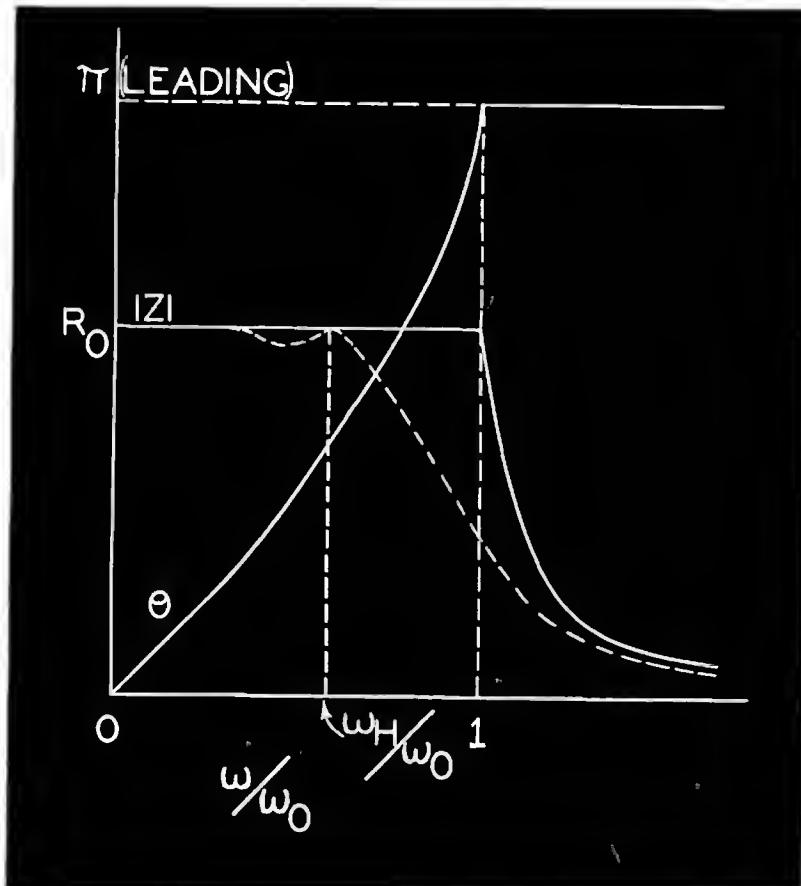
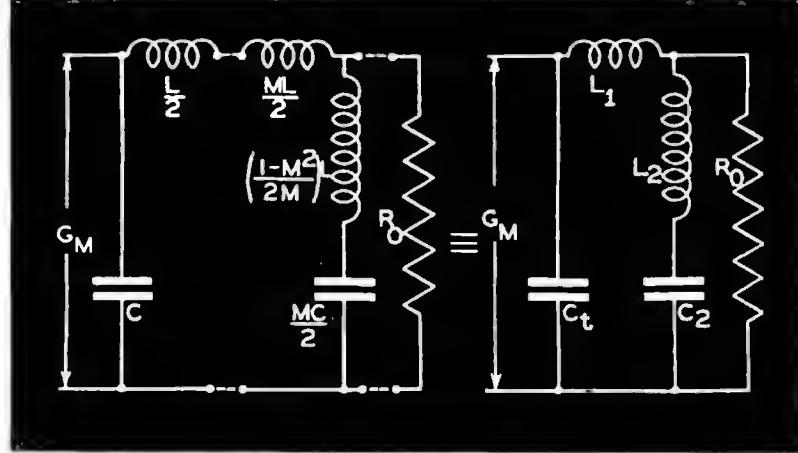

Figure 9
Figure 11
However, the impedance looking into an m-derived section terminated in  $R_0$  is more nearly that of the true image impedance up to a point very close to the cut-off frequency than is that for its prototype, the constant k section, similarly terminated, particularly for  $m = 0.6$ . Hence, if we take a half section and terminate its T end with a series m-derived half section terminated itself in the normal image impedance  $R_0$ , then the impedance looking into the  $\pi$  end of the constant k half section will be very closely that of a perfectly terminated section up to pretty nearly its cut-off frequency. If an equal amount of capacity be added to its  $\pi$  end (as per the method of Percival) then the impedance will be very close to that given in Figure 9. The circuit is shown both in synthesis and in final form in Figure 11, where the values for the various circuit parameters are also indicated. As stated in the Figure, the frequency  $f_H$  at which the response begins to fall off is about 95% of the cut-off frequency according to Wheeler3, and experimentally it has been found
quency although its phase angle increases with increase of the above ratio. The actual plot of Eq. (10) is given in Figure 9. It is at once evident that such a load impedance in the plate circuit of a video amplifier stage will have a perfectly flat gain up to the cut-off frequency  $\omega_0$  and then will drop off asymptotically to zero. This indicates a very desirable state of affairs, but it must not be overlooked that the phase shift is not strictly linear with frequency in the pass band and will thus offset to a certain extent its favorable amplitude characteristic.
amplitude response are shown by the broken line curve in Figure 9.
followed by another half section thus forming a complete  $\pi$  section before termination with  $R_0$ . The band width is thereby increased. In (C) we see the circuit of (B) further built out with an additional half section before termination with  $R_0$ , and the band width is correspondingly greater. In (D) we see a simpler configuration which is equivalent to that shown in Figure 11 in which a shunt m-derived section is employed. The optimum value of  $m$  in either case is about 0.6. A more accurate evaluation of the circuit parameters of this configuration will be given further on.